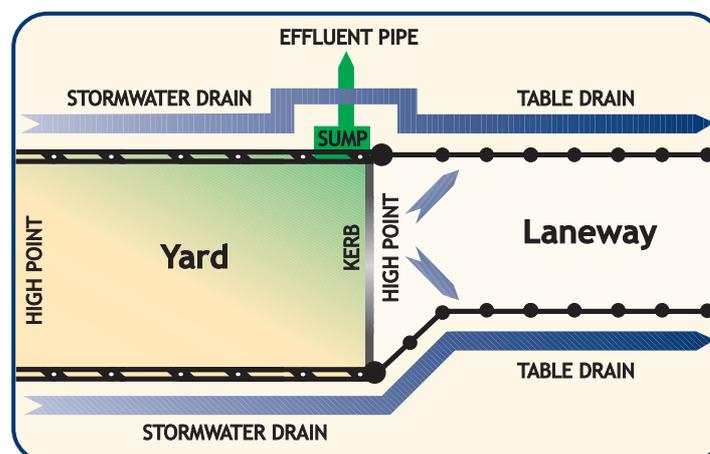

Figure 3.9: Laneway junction showing drainage.
- Provision also needs to be made for stormwater that may drain onto, or pool behind, the laneway. Stormwater drains beside the laneway can also be used to carry rainwater that is diverted from the yard (see Figure 3.9).